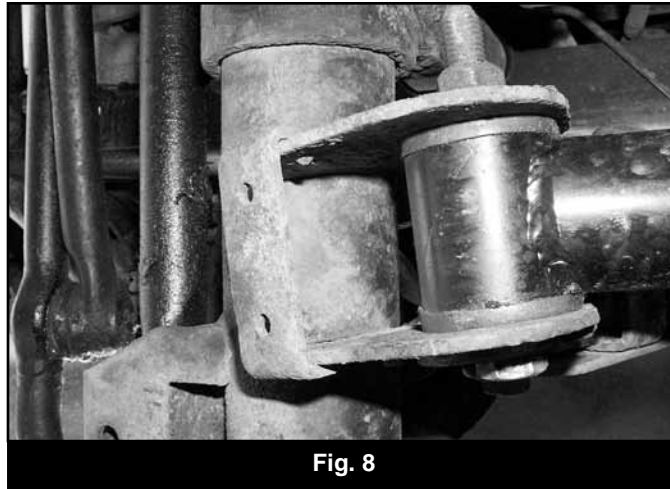

Fig. 8
24.  Install new long arm with 'pitched' end located in axle pocket, grease zerks facing down. Follow appropriate step depending on model year: (Fig. 8)